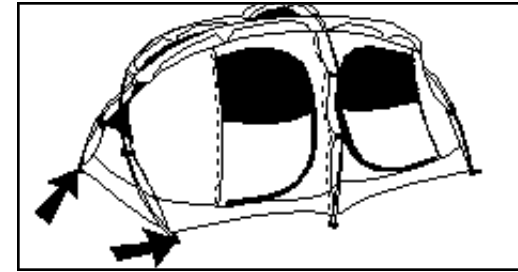

Figure 4A
5. Using one of the GOLD poles, follow the seam directly under the pole to a corner (figure 4A).